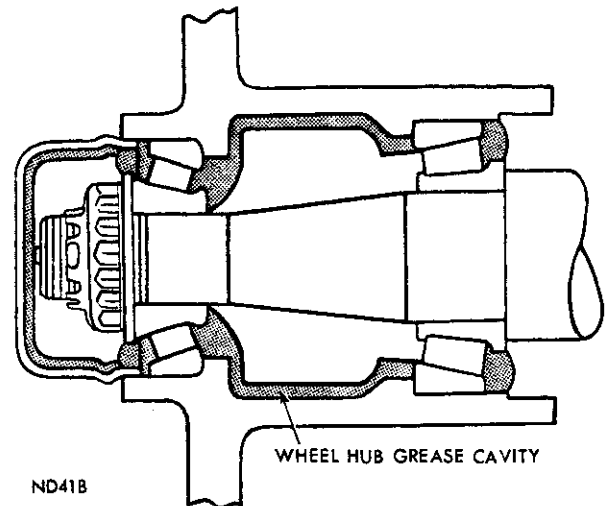

Fig. 9—Wheel Hub Grease Cavity
(1) If the bearing cups were removed, start the new cups into hub evenly, driving them flush with hub using a soft steel block and hammer. Seat cups against shoulders of hub, using a soft steel drift and hammer.
(2) Fill hub grease cavity (Fig. 9) with recommended wheel bearing lubricant. Lubricant should be
(1) If bearing cups were removed, start new cup into hub evenly, driving them flush with hub using a soft steel block and hammer. Seat cups against shoulders of hub, using a soft steel drift and hammer.
(2) Fill hub grease cavity (Fig. 9) with recommended bearing lubricant, see Lubrication Group 0. Lubricant should be even with inner diameter of bearing cups.